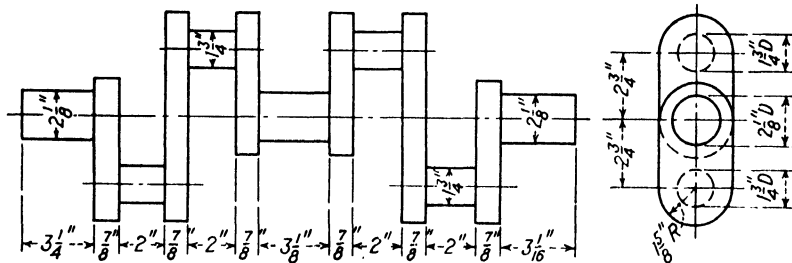

Fig. 97.—Crankshaft.
- 2.** Find the over-all length and height of the crankshaft in Fig. 97.
- 3. Find the weight of the steel crankshaft in Fig. 97.**